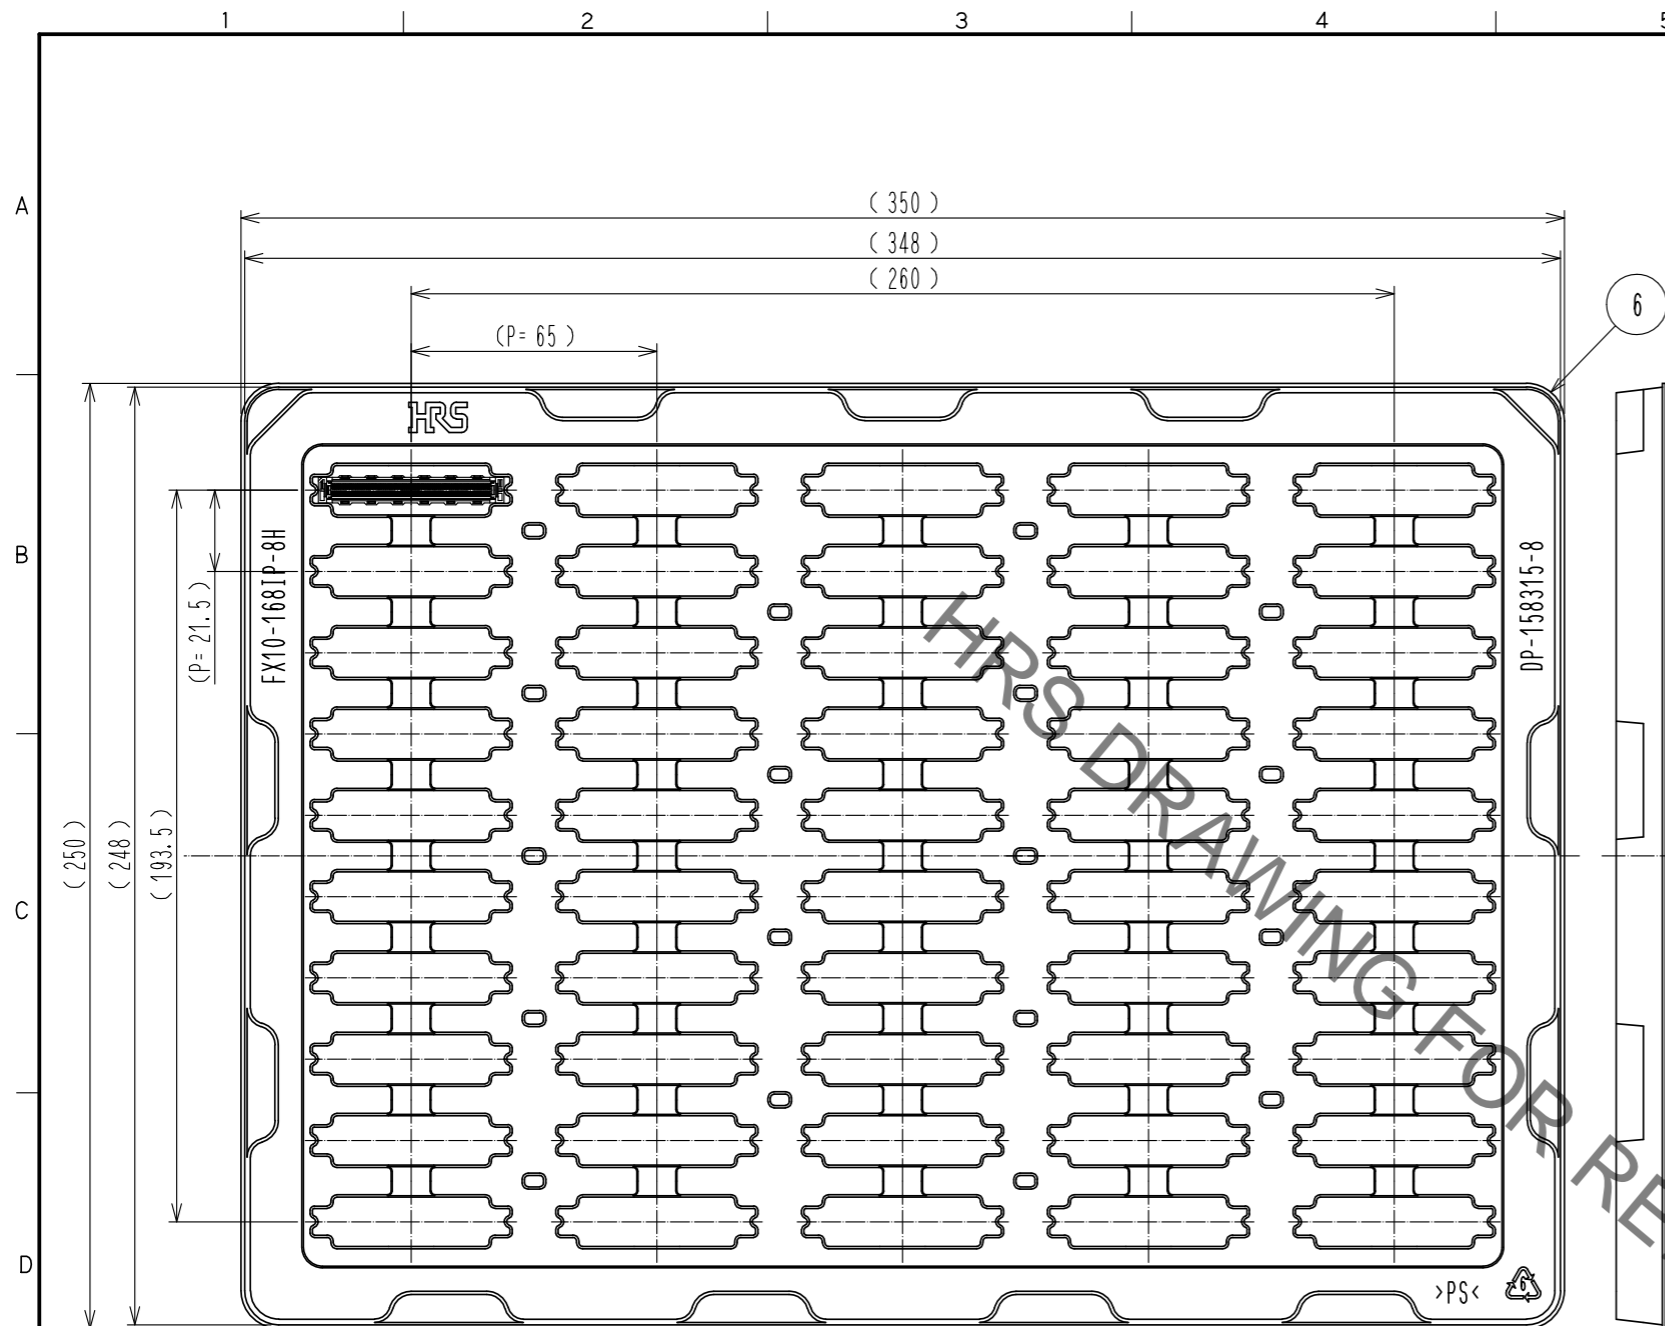

Fig.3 Drawing for packing (1:2) 4
- ◀ 6 50pcs of this product are packed in soft tray. See Fig.3 for details.